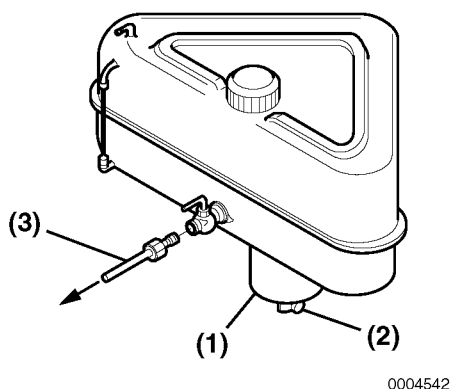

Figure 4-3
1. Put a pan under the drain cock (Figure 4-3, (2)) to catch the fuel.